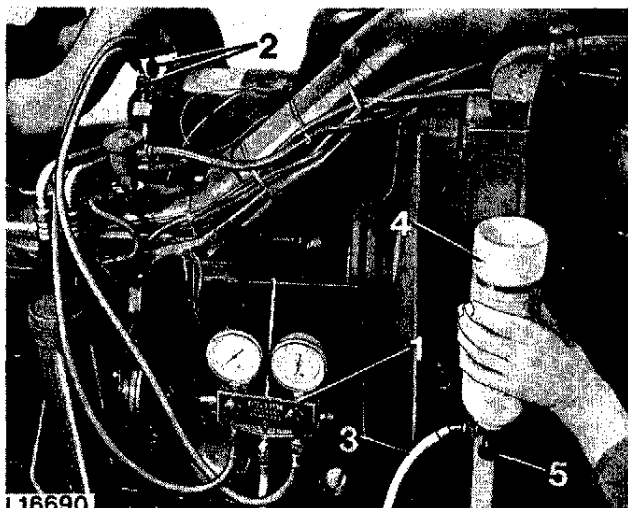

Fig. 9 — Charging the System
1. Close shut-off valve on dispensing valve FKM 10001-10\* (see fig. 9) and attaching dispensing valve to refrigerant container FKM 10001-9\*.